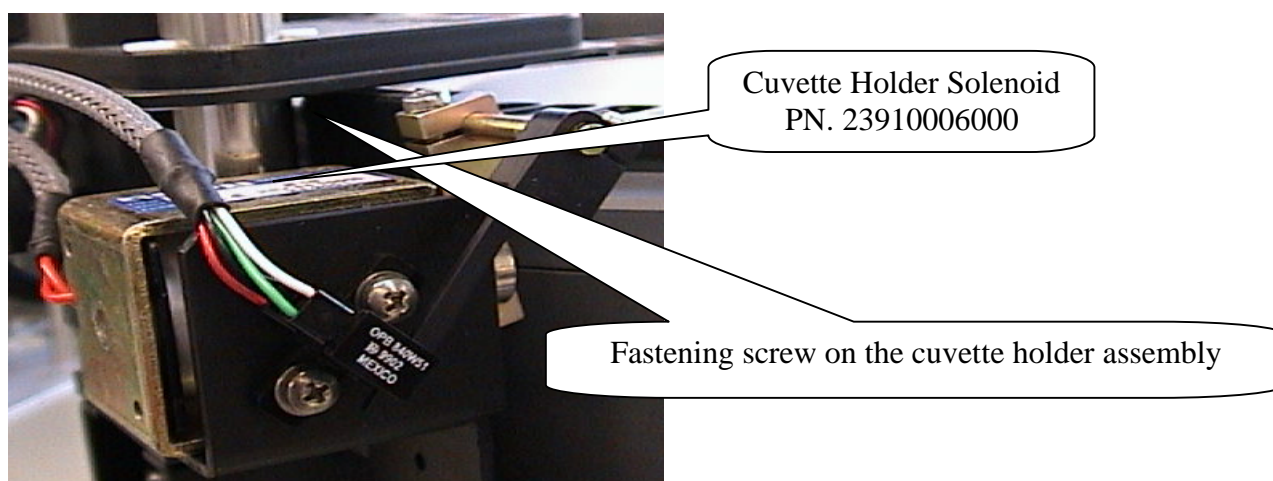

Fig. 5 Cuvette Holder
10. Unscrew the two fastening screws on the cuvette holder assembly and lift it. This will make it possible to remove the analysis plate (Fig. 5).